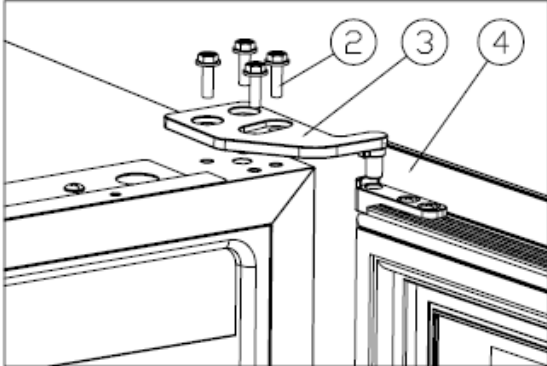

Figure 1
Unscrew the M5*16screws (2), dismantle the right upper hinge (3), and remove the door.[Figure 1].